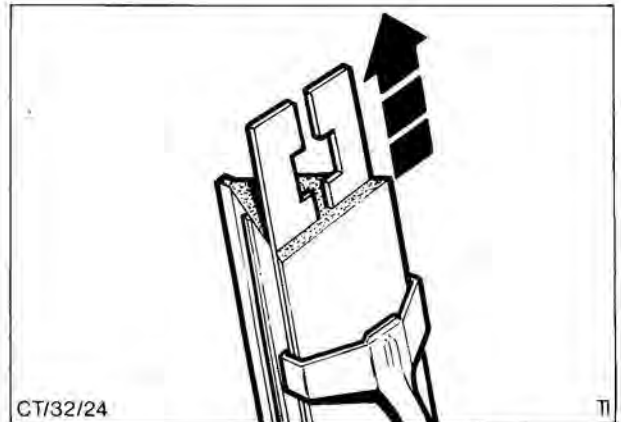

Fig. 36. Cut-outs to face inwards
4. Hook new rubber onto wiper blade and slide metal inserts along channels in wiper rubber. Ensure 'cut-outs' in inserts face inwards Fig. 36.